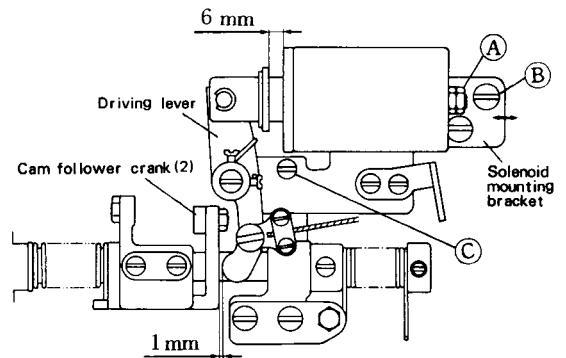
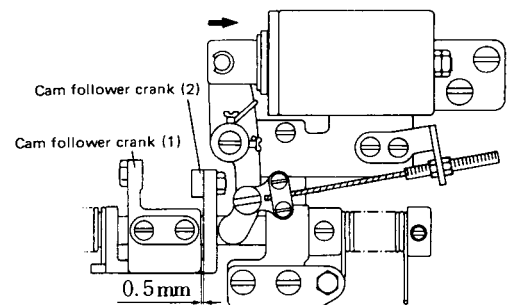

Fig. 8
Fig. 9
- ① Install the unit with the screws (B) and (C) shown in Fig. 8.
- ② Install the unit so that approximately 1 mm is provided between the driving lever and cam follower crank (2) with the stopper nut (A) in contact with the solenoid.
- ③ When the solenoid is energized under this condition, clearance of 0.5 mm is provided between the cam follower cranks (1) and (2) as shown in Fig. 9. This is the standard installation status. Make adjustment by moving the solenoid mounting bracket in the arrow direction in Fig. 8.